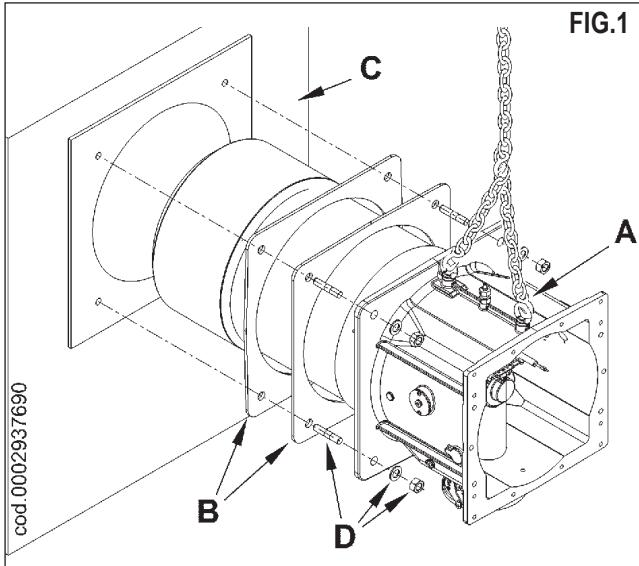
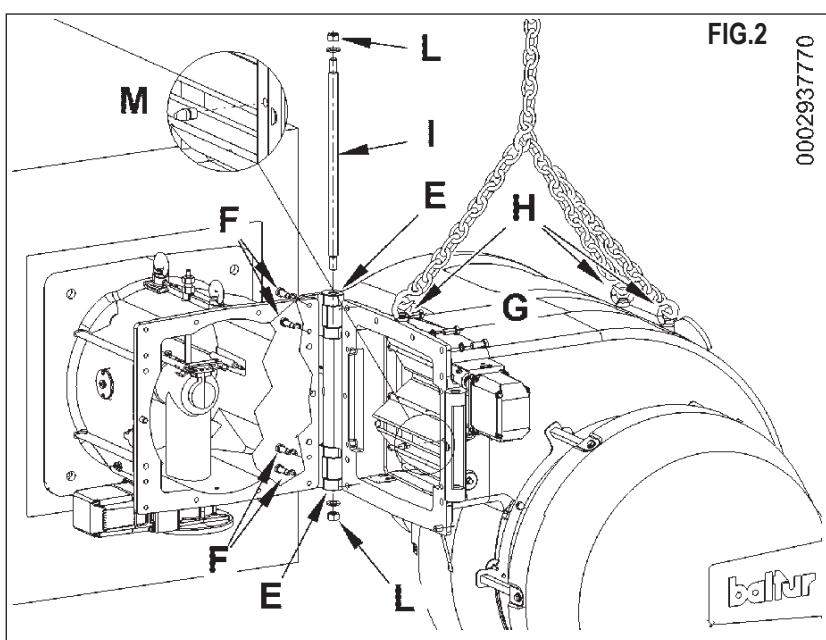

FIG.1
FIG.2
- After installing head unit on the boiler, fit the two hinges on the lung (E) using No. 4 screws (F) and the relevant washers, without tightening all the way down the screws (usually, hinges are previously assembled on the RH side but it's possible to install them on the opposite side).
- Position the ventilating body (G) at the two junctions (FIG. 2). Use suitable chains or ropes anchored to the eye bolts (H) to move the ventilating body.
- Insert pin I and then secure it with the bolts (L) and the relevant washers, paying special attention that the two hinges abutting surfaces are perfectly in contact with the corresponding volute sides. Do not tighten the nuts (L) too deeply, as this may make hinge rotation difficult.
- Screw centring pin (M) on the side of the fan flange opposite to the hinge (FIG. 2).
- While keeping the chains always fixed to the eye bolts, rotate ventilating body and position the fan flange on the lung flange, checking that pin (M) is inserted in the corresponding hole (FIG. 2).
The burner is supplied with a pressure signal port (S) for the pressure switch (T) on the lung's upper RH side, with gas train exit upwards (FIG. 1).
If the gas train exit direction is downwards and therefore the lung is turned 180° with respect to the settings of FIG. 1, we suggest to disassemble pressure port (S) and pressure switch (T) and to assemble them again in their suitable seats on the opposite side of the lung, so that the port is on the upper RH side again (FIG. 2). This position ensures a correct and reliable pressure signal for the air pressure switch.